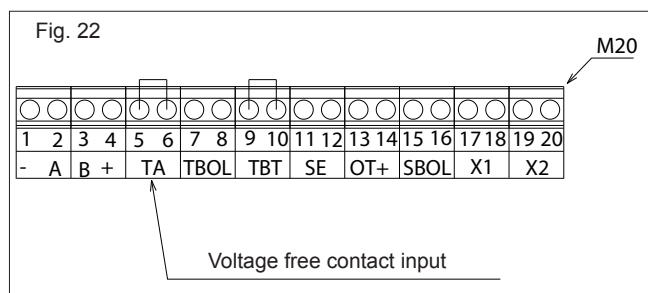

Fig. 22
- Loosen cover retaining screws (V) and remove cover.
- Refer to fig. 22 and below for relevant wiring connections for the envisaged controls regime: